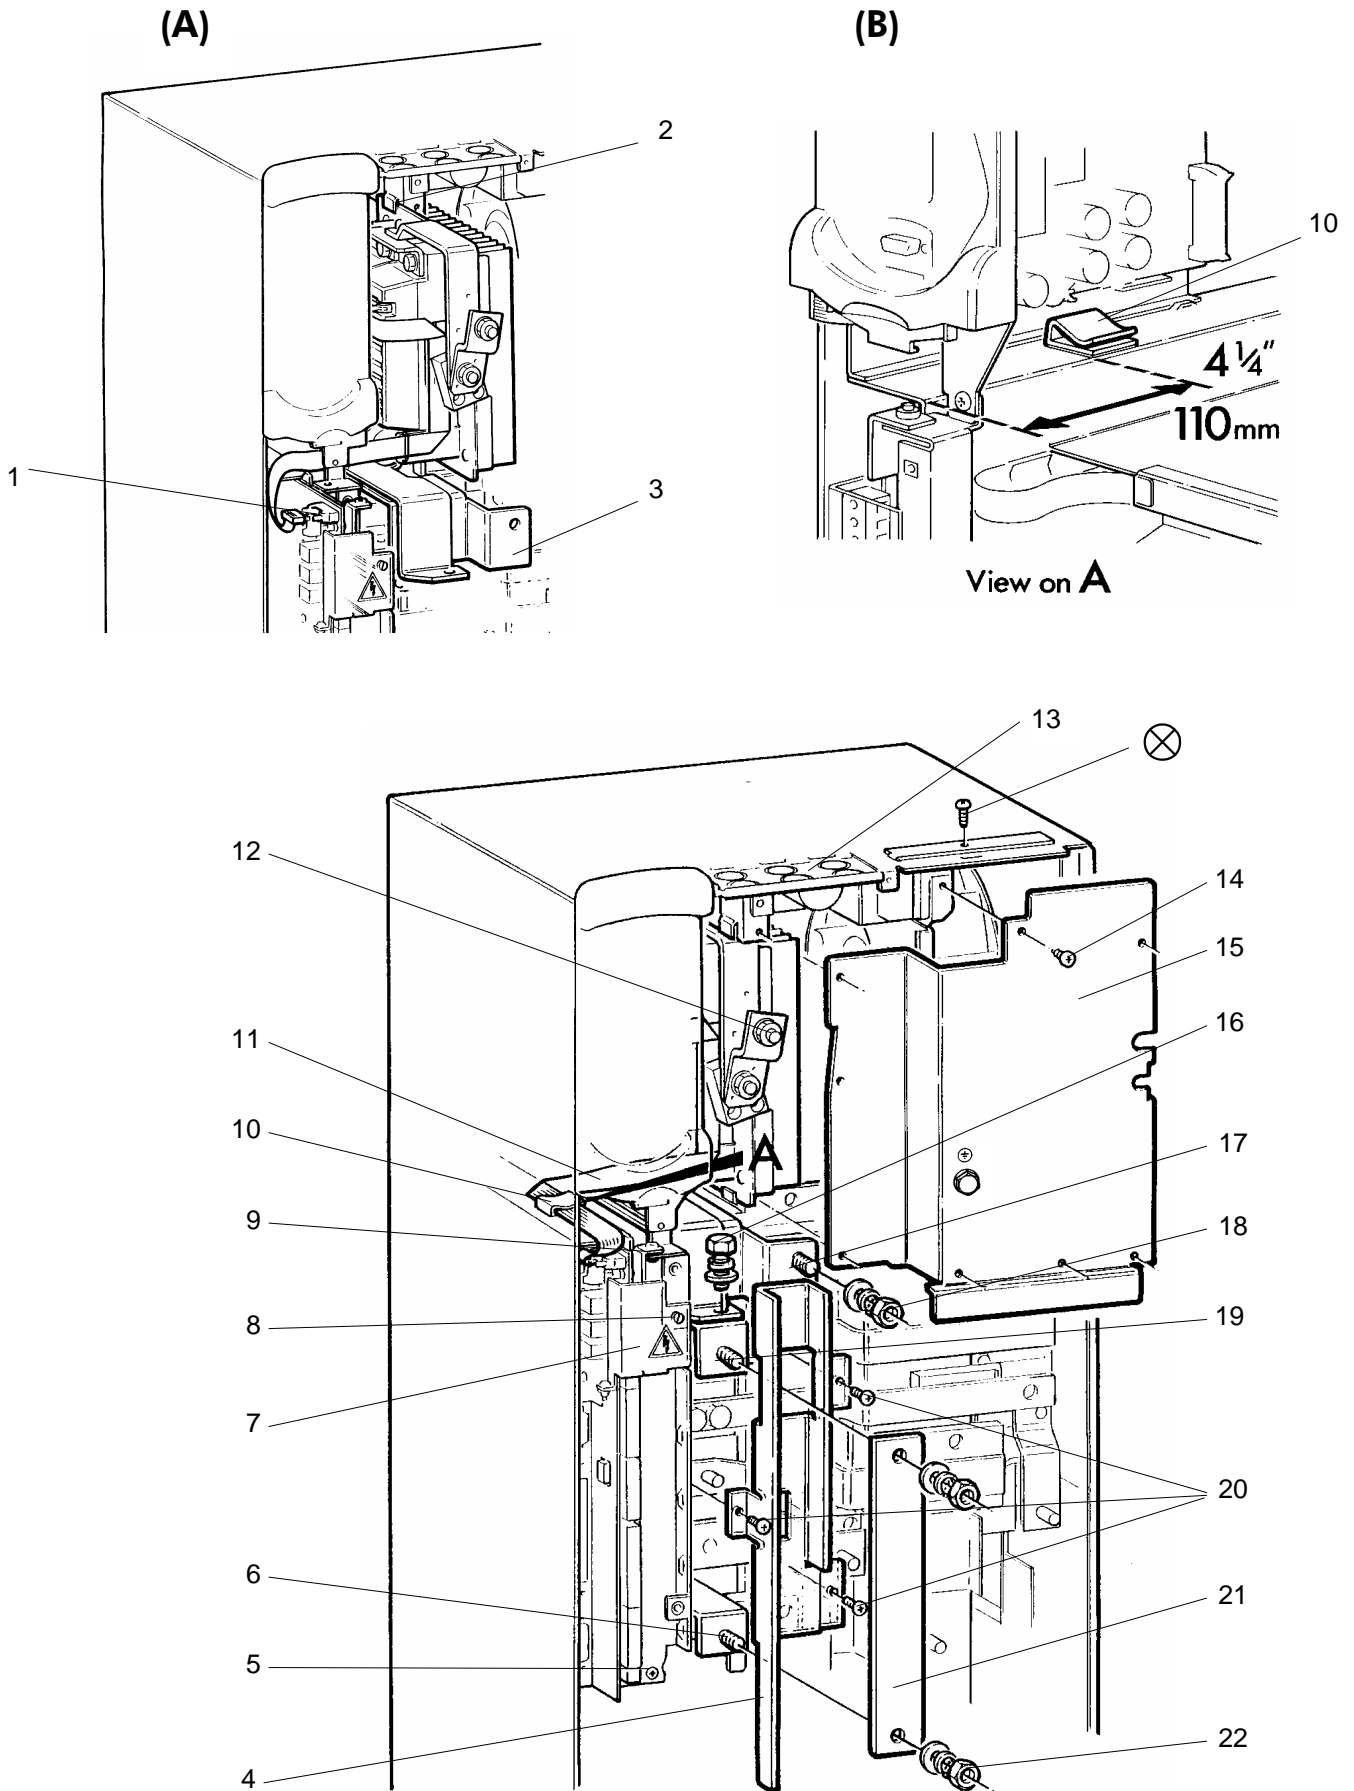

Figure 4-10 Frame size 6 - installing the DB Unit
(Refer to Figure 4-10)
1. The ribbon cable has been folded inside the DB Unit for transportation purposes. Release the free end of the ribbon cable so that it hangs out of the front of the DB Unit. Slide the DB Unit into the drive chassis, ensuring that the top and bottom edges of the DB Unit are located correctly in the guides (2) as shown in Figure 4-10 (A). Ease the bottom busbar (3) over the DC– stud (17) and slide fully into position.
- i. Open the hinged plastic shroud (7) by releasing the retained M5 screw (8).
- ii. Remove the M5 screw and spring washer (5) securing the bottom of the control board to the drive chassis.
- iii. Remove the M5 screw and spring washer (9) securing the top of the control board to the drive chassis.
3. Run the DB Unit ribbon cable (11) through the clip (10) on the drive chassis. If the clip is missing, fit the clip supplied with the DB Unit. The location of the clip is shown in Figure 4-10 (B). Connect the ribbon to PL8 (1) on the control board.
5. Secure the DB Unit to the DC+ busbar, using an M10 hex head bolt, spring and flat washers (16) (supplied in the DB Unit kit). Torque as shown above.
6. Secure the DB Unit to the DC– stud (17), using an M10 nut, spring and flat washers (18). Torque as shown above.
7. Re-fit the fan access panel (15) into position, easing it past the BR stud (12) and the DC– busbar (17). Check that the panel does not trap cables at the top or bottom. Secure with eight M5 taptite screws (14), starting with the centre screw on the left edge.
9. Re-fit the transparent plastic shroud (4), using three M5 taptite screws (20).
10. Position the link (21) between the RECT+ stud (6) and the DC+ stud (19). Secure the link to the RECT+ stud (braking resistor cable to be fitted to the DC+ stud later), using an M10 nut, spring and flat washers (22).
11. At the top of the drive, cut open plastic fingerguard (13) to allow the braking resistor cables to enter the drive.
12. Secure the crimp of one DB resistor cable to the DC+ stud (19), using an M10 nut, spring and flat washers. Torque as shown above.
13. Secure the crimp of the other DB resistor cable to the BR stud (12) on the DB Unit, using an M10 nut, spring and flat washers. Torque as shown above.